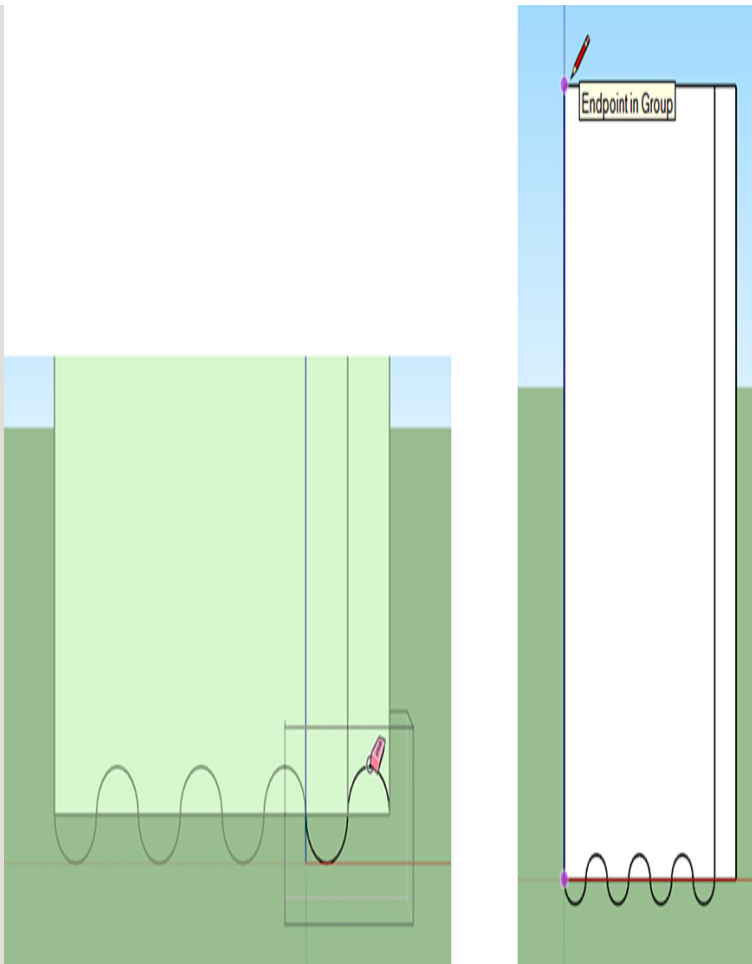

Figure 4-59 Delete the extra arc and draw the ghost's sides.
3. Make the ghost's sides (Figure 4-59). First make the ruffle symmetrical by deleting the extra arc on the right (open its group editing box to do this). Then draw vertical lines from the arcs' endpoints to the top of the block.